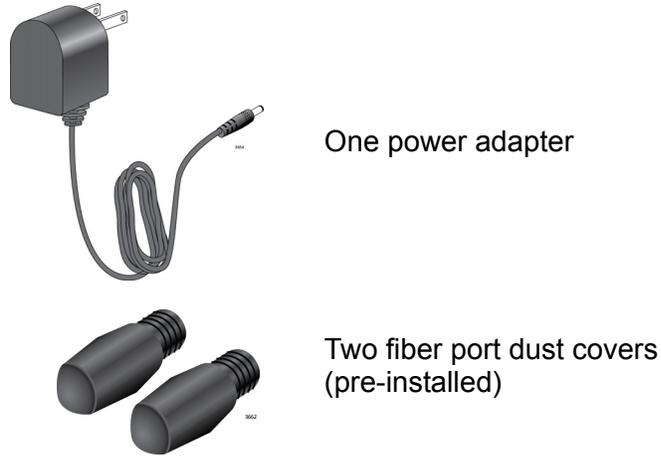

Figure 16. MMC2000/200/ST Series and AT-MMC200LX/ST Shipping Package Contents
- Figure 16 shows shipping container items for the MMC2000/200/ST series and AT-MMC200/LX/ST media converters.